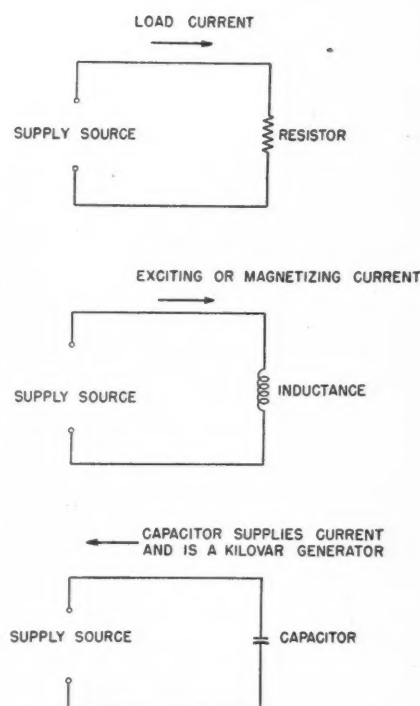

FIG. 1—Capacitor functions as a kilovar generator.
**I**F a capacitor is considered as a kilovar generator (Fig. 1) its location becomes self-evident; capacitors should be located at or near the load area for maximum overall benefit.